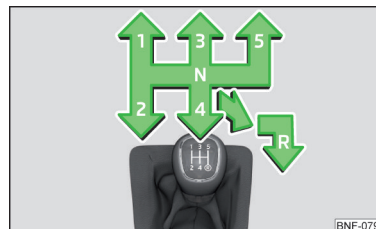

Fig. 91
The shift pattern for the individual gear positions is shown on the gear lever » Fig. 91.
- Push down on the shift lever, then push fully over to the right and then backwards, to position **R** » Fig. 91.